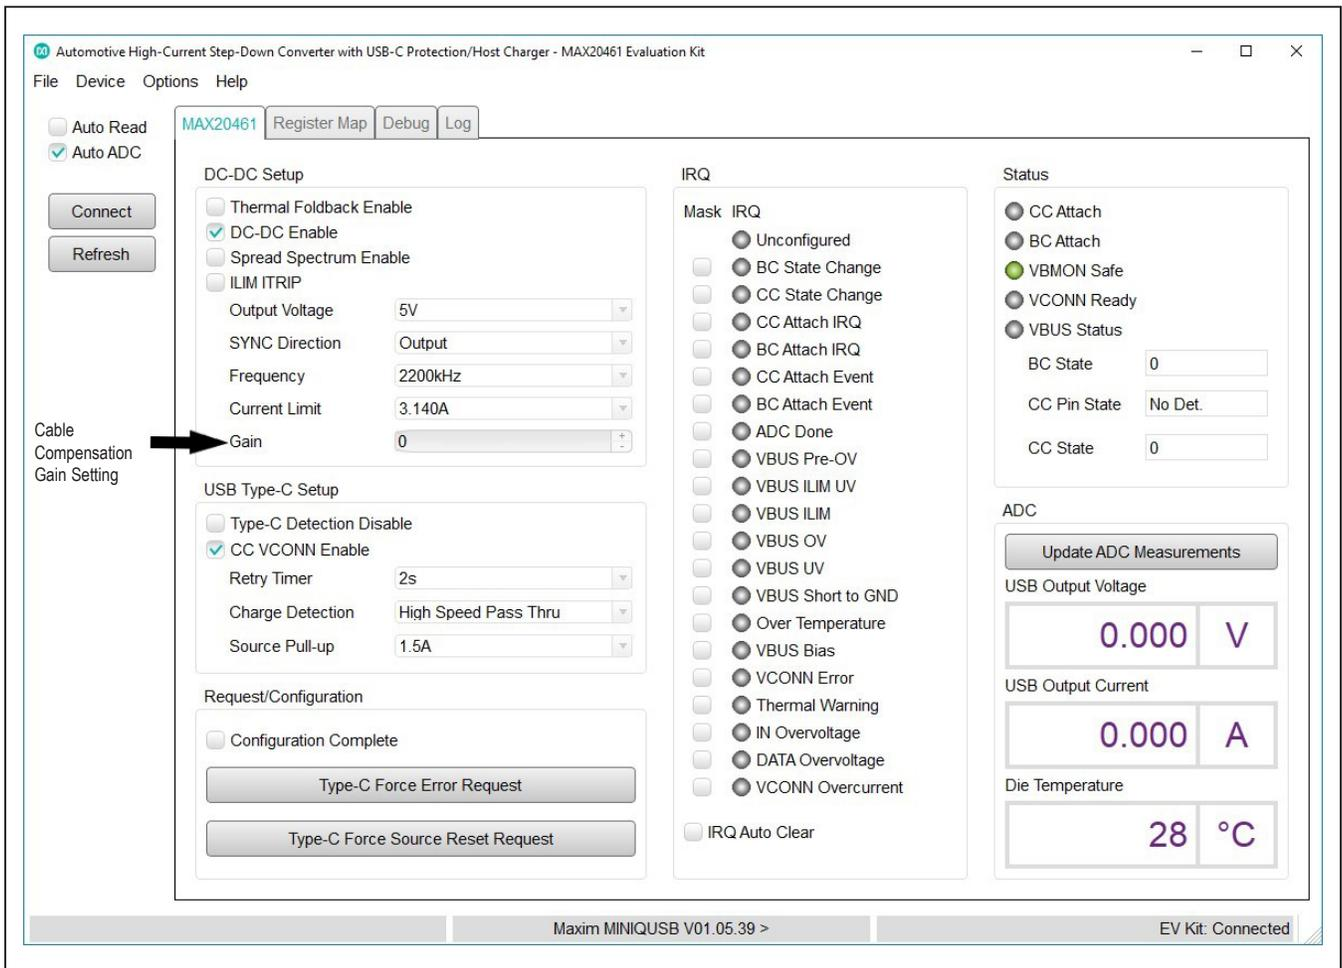

Figure 3. MAX20461 GUI Startup
- 10) Start the MAX20461 GUI. Look at the message bar at the bottom of the GUI to verify that both the MINIQUSB and the EV kit are detected. See Figure 3 for GUI startup configuration.